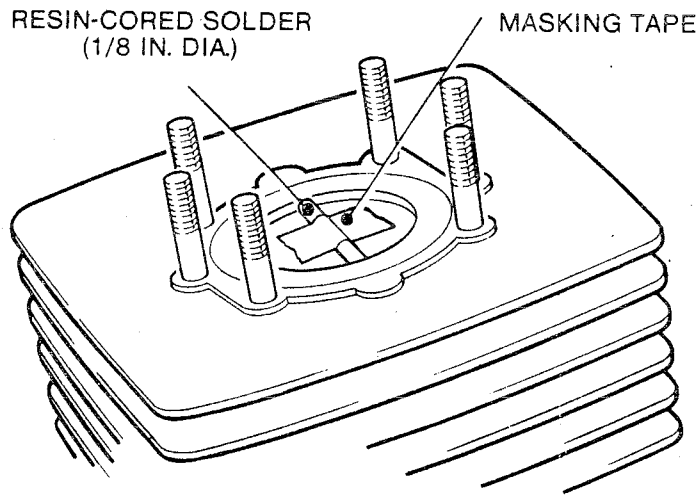

Figure 1.4a - Measuring Squish Area
2. Tape a piece of resin cored solder ($\frac{1}{8}$ in dia) across the piston crown parallel to the gudgeon pin. Bring piston to within $\frac{1}{4}$ in BTDC (See Figure 1.4a).